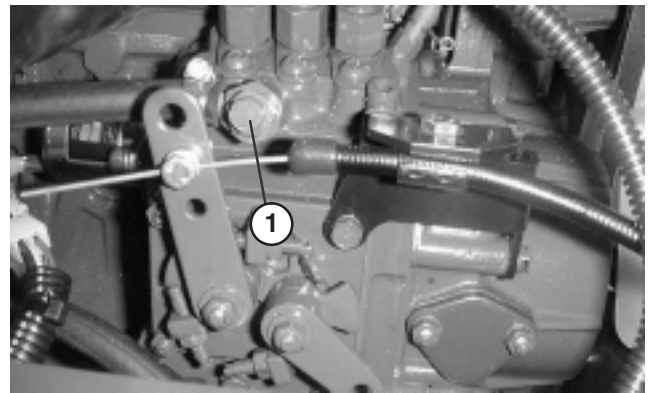

Figure 20
3. Open the air bleed screw on the fuel injection pump (Fig. 20).